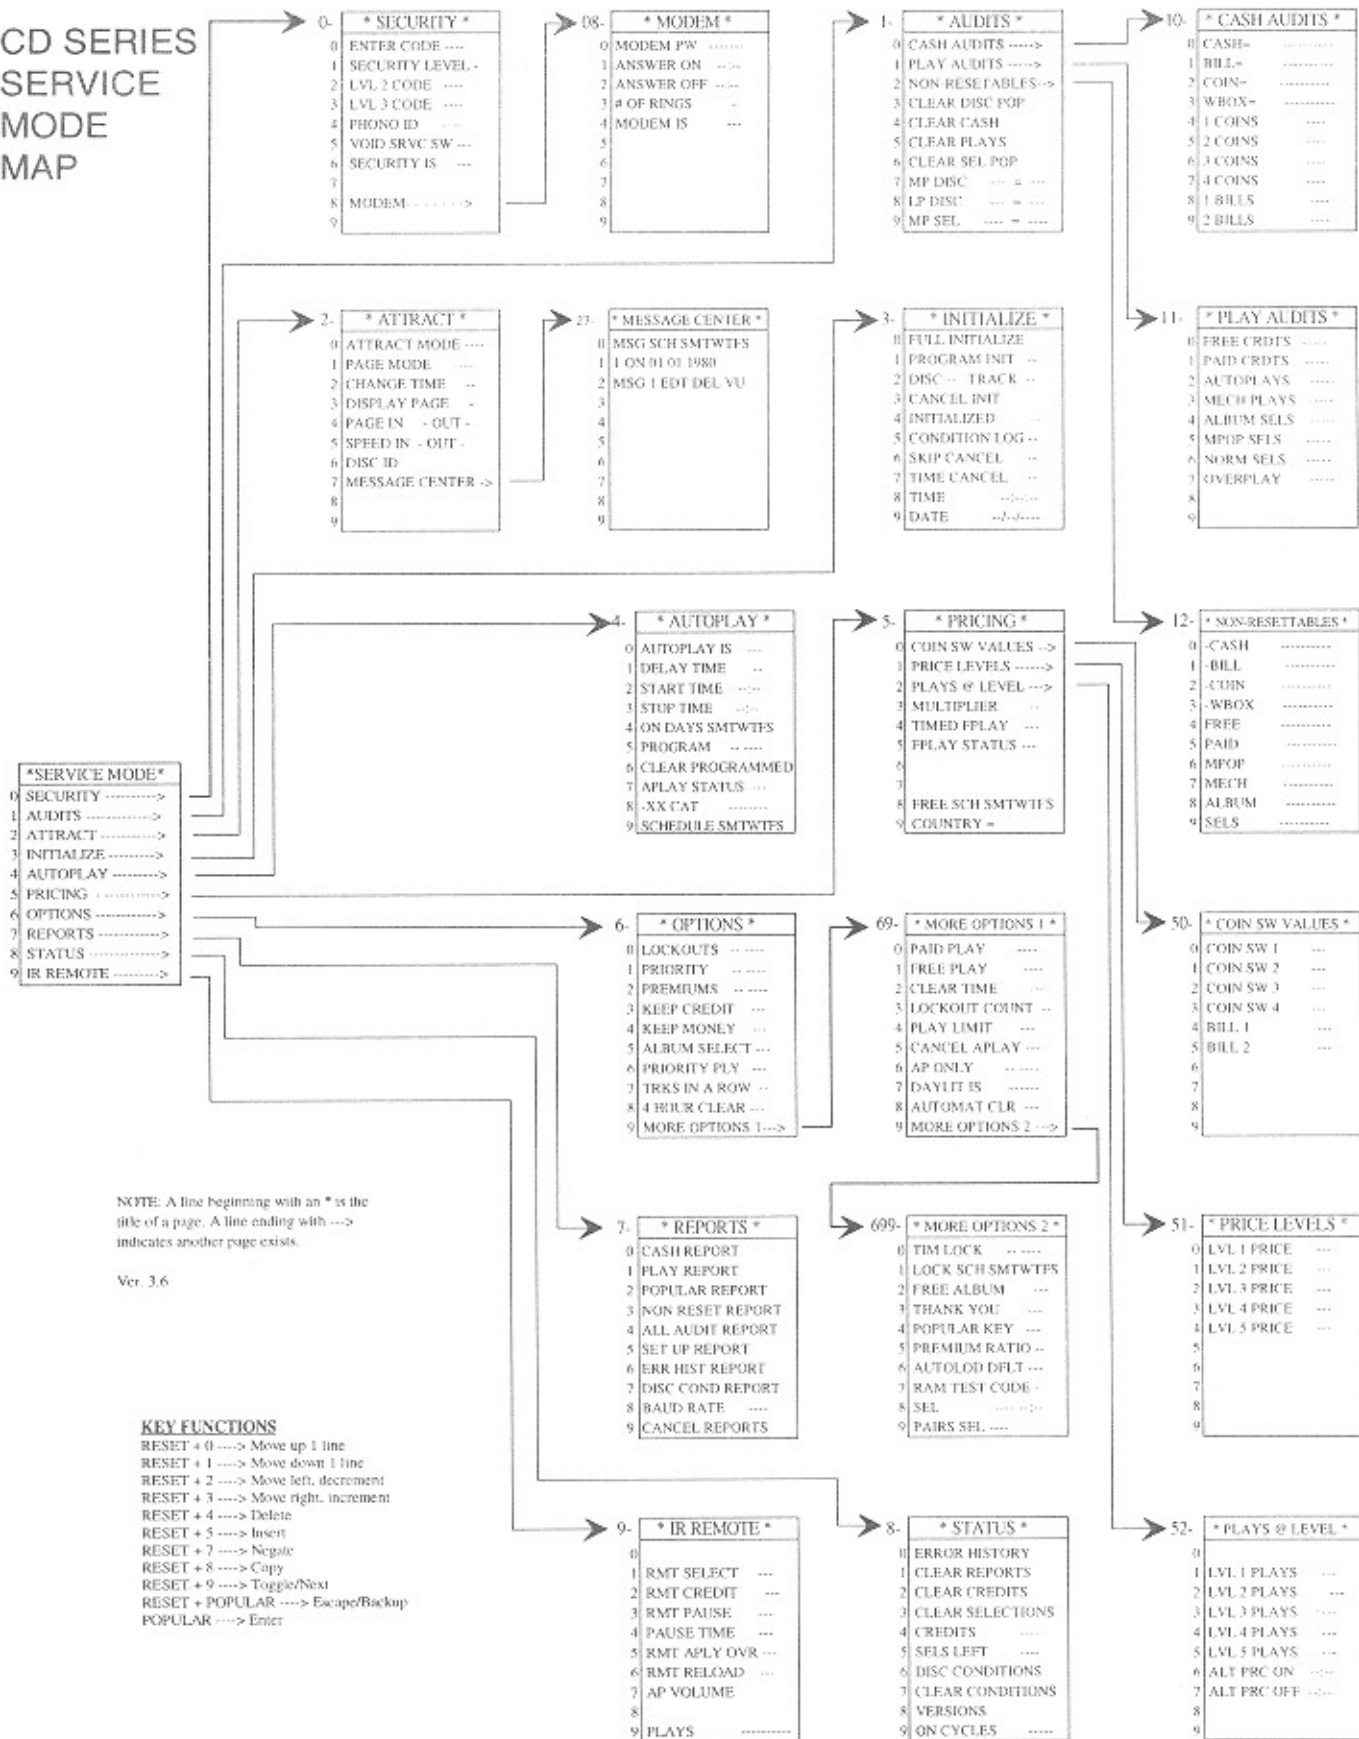

Figure 2-10. Service Mode Map
To view a menu option, hold down the RESET button and press either the 0 digit or the 1 digit. The 1 digit will scroll down one item and the 0 will scroll up one item. This method of viewing menu options will allow you to view your options in any menu (or submenu). Refer to *Figure 2-10, The Service Mode Map*, and note that an arrow following the command indicates that a submenu exists. Press the POPULAR key to enter a submenu. Hold the RESET key and press the POPULAR key to exit a submenu.
CD-100F commands are formed by combining the numbers that appear on the left side of the menus in *Figure 2-10*. To construct and use CD-100F commands, refer to *Figure 2-10* or *Table 2-4*.
**Example:** You want to view the number of cycles the CD mechanism has made. Using *Figure 2-10*, you determine that you need to select AUDITS (1), on the main menu; NON-RESETTABLES (2), on the AUDIT menu; and MECH (7), on the NON-RESETTABLES menu. Use the digits to form a numeric command, which is 127. Type 127 and the number of mechanism cycles is displayed.
The SERVICE MODE menu (referred to as the "MAIN menu") is the starting point for all service, pricing, and programming functions. This menu contains the general title for each submenu. Some of the submenus contain commands only. Other submenus contain both commands and further submenu names. Refer to *Figure 2-10, the CD-100F Service Mode Map*, for an illustration of the following menu descriptions: